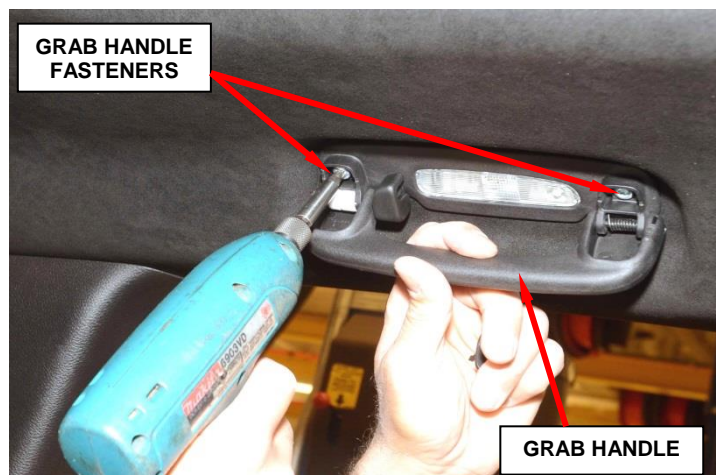

Figure 6 – Rear Overhead Grab Handle
14. Remove and save the right and left side rear overhead grab handles (Figure 6).